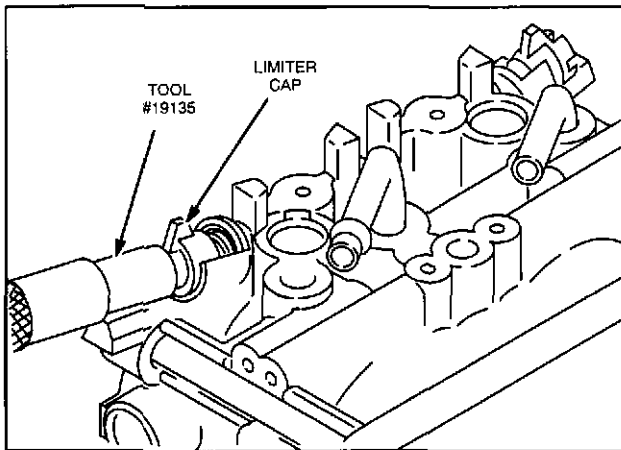

Fig. 163 - Installing Limiter Cap
- a. Position limiter cap so that stop on limiter cap is at mid point between stops on carburetor body. Press limiter into position using knock out pin, Tool #19135 as shown in, Fig. 163. Repeat for other idle mixture valve.